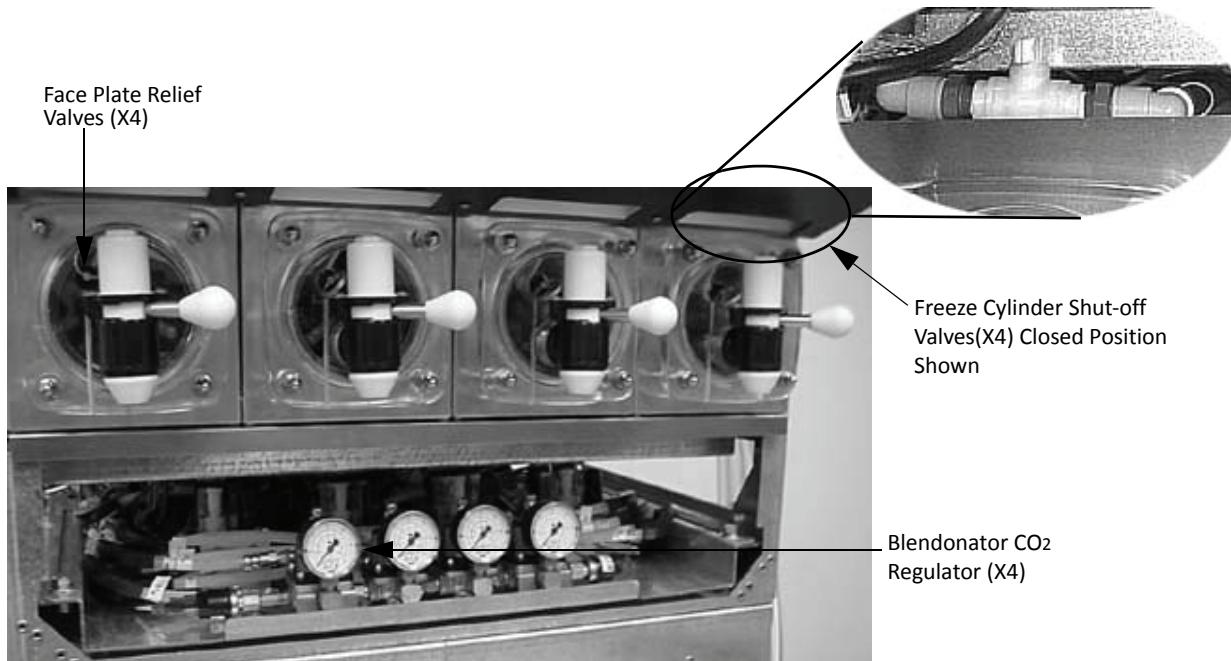

Figure 5.
3. Adjust the Blendonator tank secondary CO₂ regulators (see Figure 5.), located inside the unit, to between 22 – 28 psi (the regulator is factory set to 23 psi). Open the Freeze Cylinder Shutoff Valves (see Figure 5.), valve lever parallel to valve body (open position). The CO₂ error on the display will automatically reset itself.
- Make sure the freeze cylinder shutoff valves are OFF (valve handles perpendicular to valve body, see Figure 5.)
9. Once the Brix is set, route the product sample valve back into the unit. **DO NOT** fill the barrel with product until the water bath has cooled to 32°F or product will not be properly carbonated. Once the water bath is 32°F or cooler, fill the barrel by opening up the product shut-off valve (see Figure 5.)